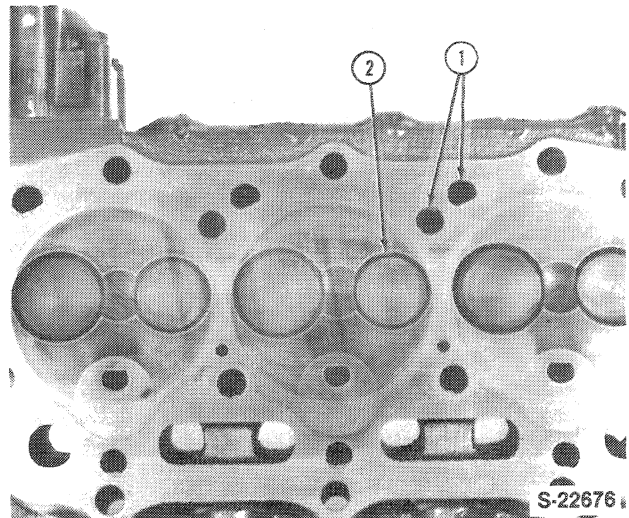

Figure 14
- Check the head for cracks or damage, Figure 14, in the following areas: